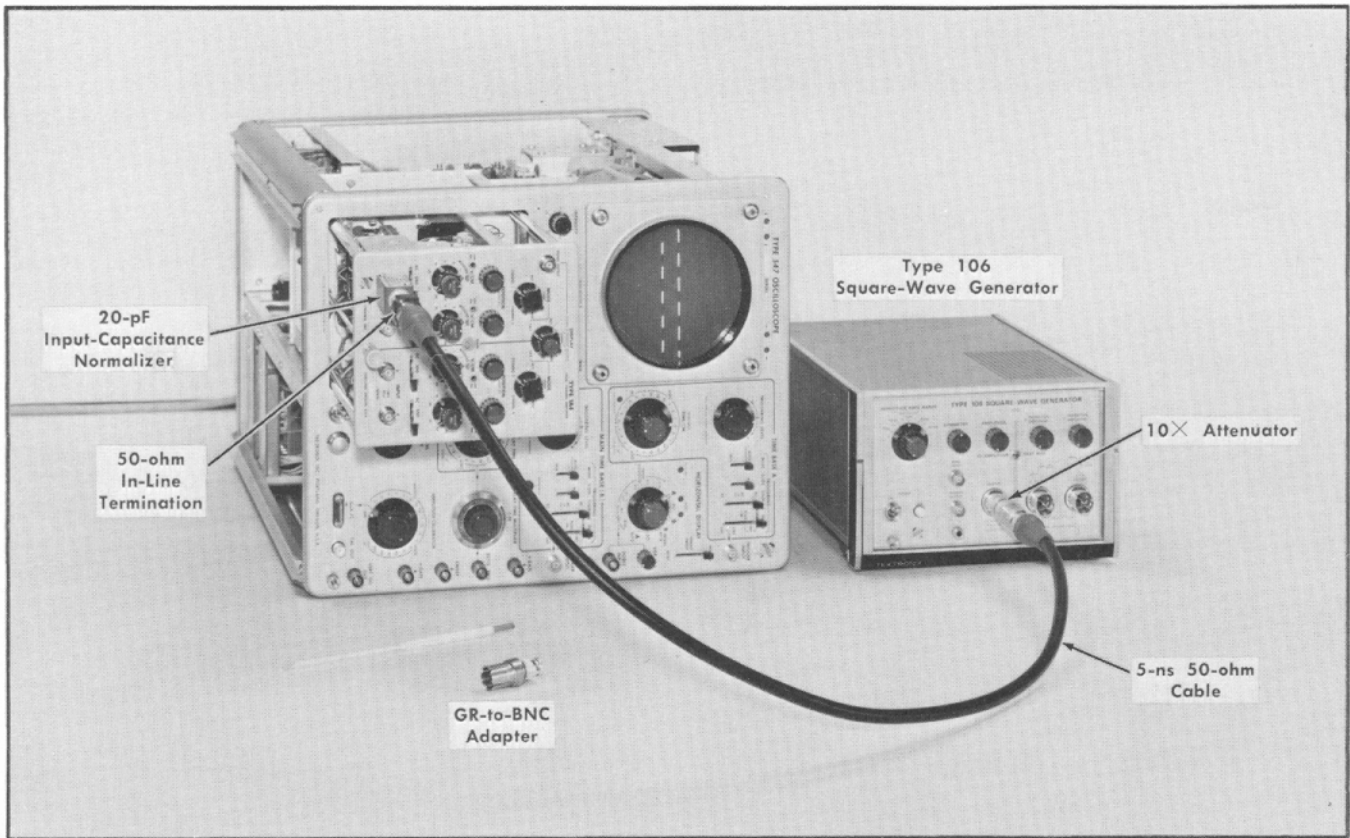

Fig. 7-27. Test equipment setup for step 21.
21. Adjust Input Capacitance and Attenuator Compensation ①
a. Test equipment setup, with connections made at completion of step 21d, is shown in Fig. 7-27.
b. Remove the Type 1A4 from the oscilloscope and insert the 6½-inch plug-in extension (item 15) between the Type 1A4 and the oscilloscope.
d. Apply the 1 kHz signal from the Type 106 high amplitude output connector through a 10× attenuator (item 12), 5-ns coaxial cable, 50-ohm in-line termination and a 20 pF input-capacitance normalizer (item 9) to the Channel 1 Input connector (see Fig. 7-27).